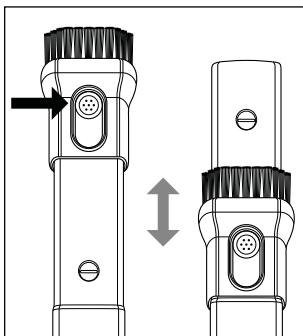

Fig. 3
- ◆ To adjust the 2-in-1 suction nozzle ⑫, hold down the button on the brush nozzle. Slide the brush nozzle forward if you want to use the brush nozzle. Slide the brush nozzle backward if you want to use the crevice tool (see Fig. 3).